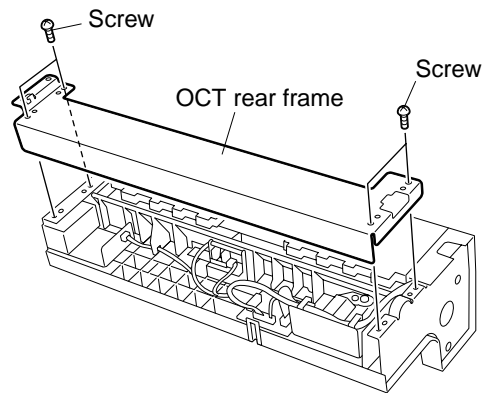

Fig. 6-6
2. Remove OCT rear frame. (See Fig. 6-6)
- Remove OCT rear frame. (See Fig. 6-6)